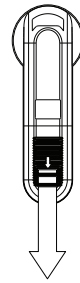

Figure 1
1. Remove the battery cover (see Figure 1).